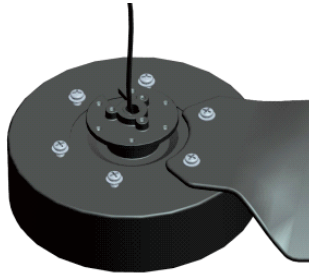

Fig. 2.1
2.1 Remove 6 blade screws from the motor housing. Secure each blade to the motor hub using the screws as shown in Fig. 2.1.